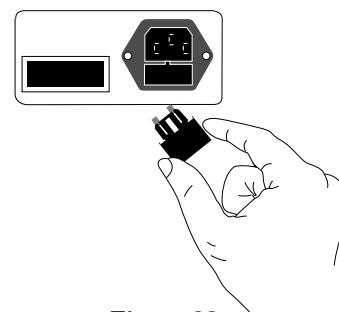

Figure 28
- 4a. See Figure 28. Push the fuse holder back into the unit until it snaps into place.